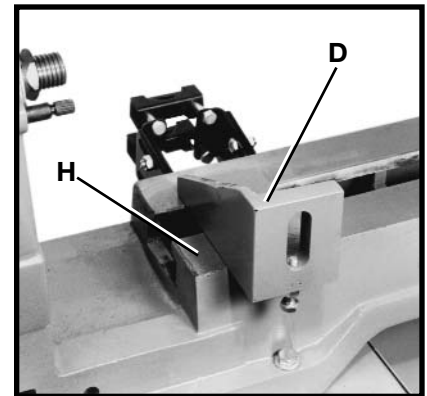

Fig. 12
5. Slide the remaining mounting bracket assembly (D) Fig. 12 at the headstock end of the wood lathe in the same manner. **NOTE:** Position the left side of mounting bracket assembly (D) Fig. 12 so it is approximately 1" from the end of the lathe bed (H). **NOTE:** Loosely tighten the mounting hardware.